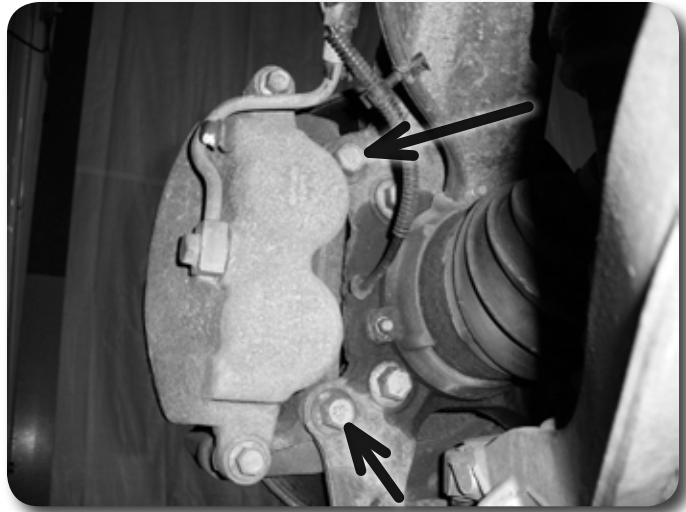

Figure 2
8. Remove the brake caliper anchor bracket bolts and remove the caliper from the knuckle (Figure 2). Hang the caliper out of the way. Do not let the caliper hang by the brake hoses.